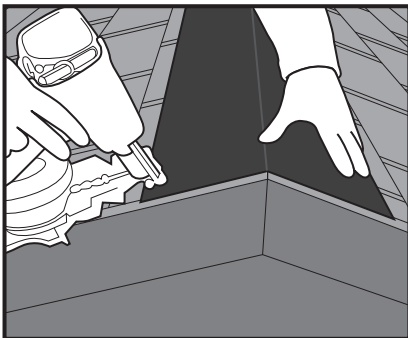

Fig. 4
4) Secure the vent along the entire ridge by nailing in the printed Tack Lines. One nail should be placed every 3 to 4 feet, on each side of the ridge. See Figure 4.